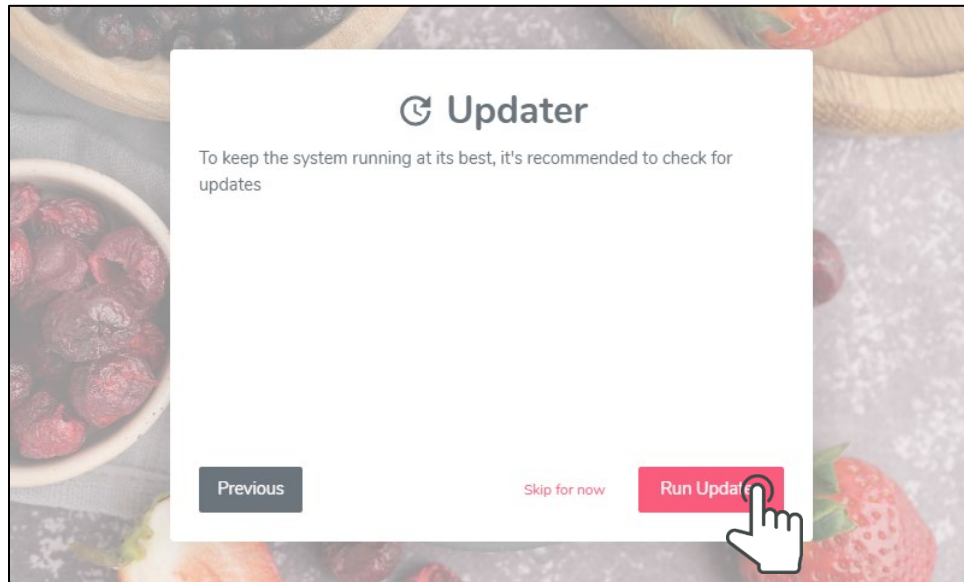

Figure 9
4. In this step, it's recommended to perform updates to get the most of the Freeze Dryer. Tap on "Run Updates" and wait (Figure 9). Proceed once the Freeze Dryer has been updated.